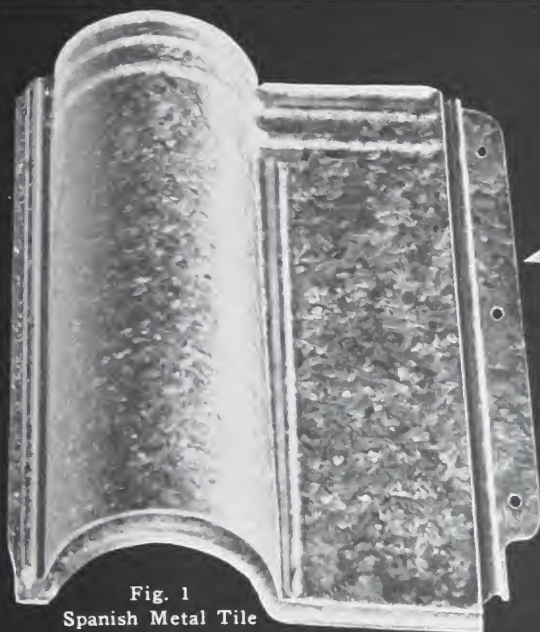

Fig. 1
*Corrugated Roofing* is made from flat sheets which have been formed into a series of alternate ridges and grooves, or hills and valleys, that run in the same direction. The reason for corrugating the sheet is to provide the greatest possible stiffness and load carrying ability. This type is illustrated on page 18. The sheet shown in Fig. 1 has corrugations which measure  $2\frac{1}{2}$  inches from the top of one to the top of the next. This type is referred to as " $2\frac{1}{2}$  inch Corrugated Roofing." In Fig. 2 the corrugations measure only  $1\frac{1}{4}$  inches from ridge to ridge and this type is called " $1\frac{1}{4}$  inch Corrugated Roofing." Both sizes are exten-
*Spanish Metal Tile* is another very attractive form of steel roofing, borrowed from Spanish architecture. They have a raised portion looking something like a barrel split in two, and a flat apron on one side. See Fig. 1, page 19. The tile are applied so that the raised or barrel shaped parts fit over the corresponding parts of the tile in under. This results in a series of high and low lines running from the eave to the ridge, and adds to the architectural appearance of the roof. Metal tile are fire resistant, durable and of light weight, about 120 pounds per square. This light weight, in comparison to other kinds of tile roofing, makes possible outstanding economy in the use of smaller timbers in the supporting roof structure.